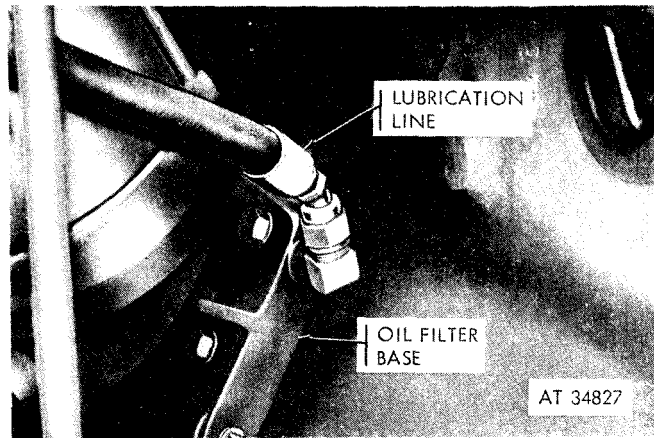

Figure 2-59. Disconnecting lubrication line at oil filter base —diesel.
(3) Disconnect the lubrication line (fig. 2-59) from the elbow connection at the oil filter base plate and remove the line.
(1) Connect the line (fig. 2-59) to the elbow connector at the filter base plate.